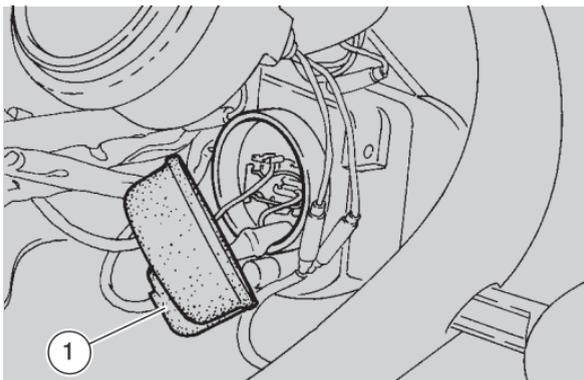

Fig. 55
- take off the rubber cup (1-Fig. 55);